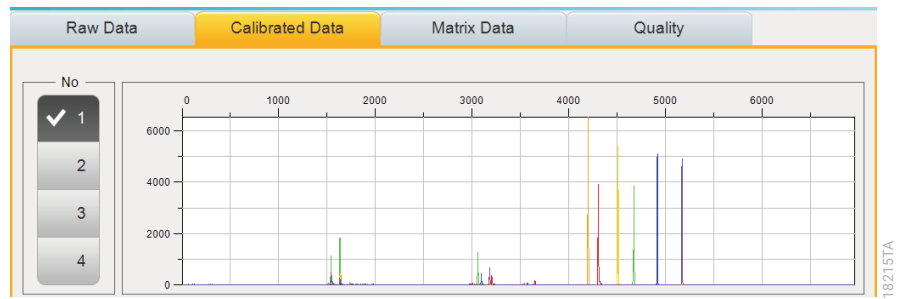

Figure 146. Dye order detected in Spectral Calibration.
- Configure the dye order in Calibration Peak Order. The Calibration Peak Order correlates the position of the dyes as they pass the detector relative to the order shown in the Matrix Dyes row (Figure 145). In this example, as the orange dye is in the sixth position in the Matrix Dyes row, but is the first dye labeled spectral calibration fragment to pass the detector (Figure 146), then the number 6 is listed first in the Calibration Peak Order row (Figure 147), showing that orange (6) will be detected first. The red dye is listed fourth in the Matrix Dyes row and is the second peak to pass the detector during calibration, therefore 4 is listed in the second cell of the Calibration Peak Order row (Figure 147), showing that red (4) will be detected second. Continue assigning Calibration Peak Order using this convention.